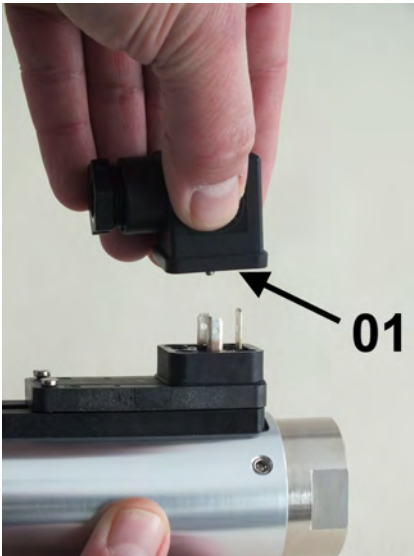

Fig. 23: Remove socket
2. ➤ Remove socket (Fig. 23/1).